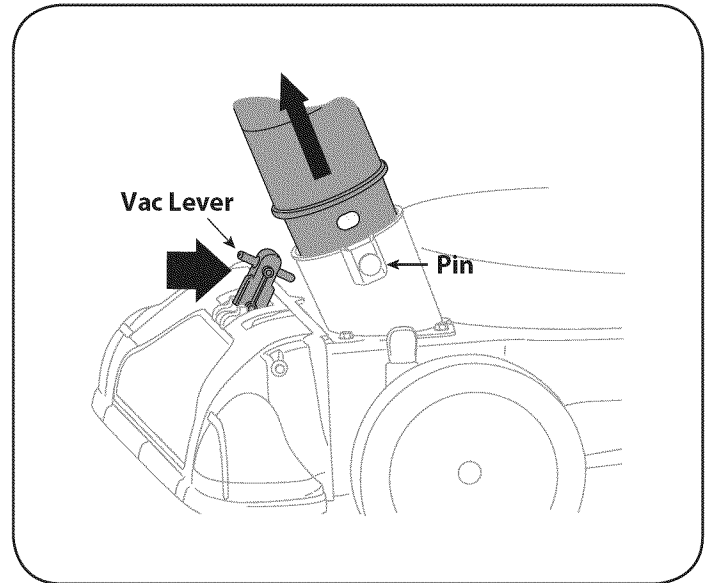

Figure 18
1. Place nozzle/hose vac lever in the top position on the nozzle to vacuum through nozzle. See Figure 18.